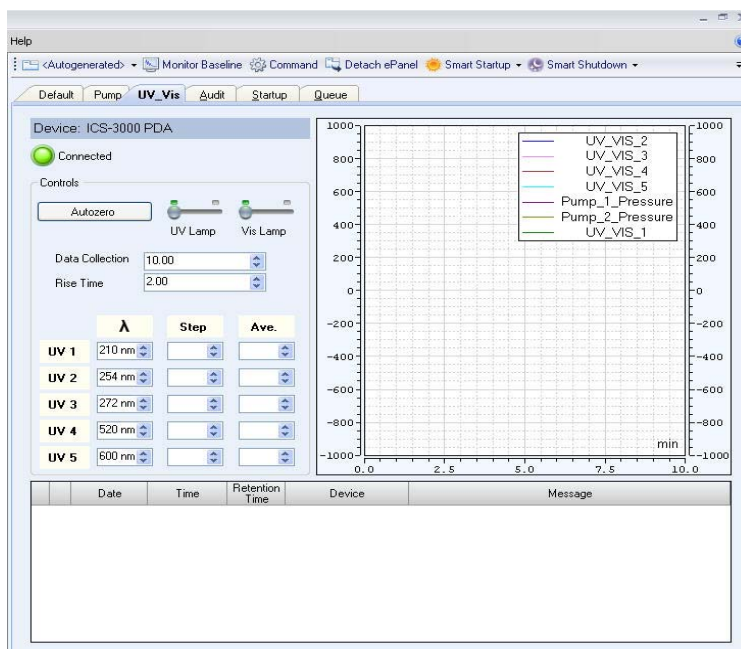

Figure B-9. Example Dionex PDA ePanel in Chromeleon 7
3. To view the Dionex PDA ePanel (see Figure B-9), click the **UV\_Vis** tab on the ePanel Set. The ePanel provides access to Dionex PDA functions, as well as detailed status and diagnostics information.